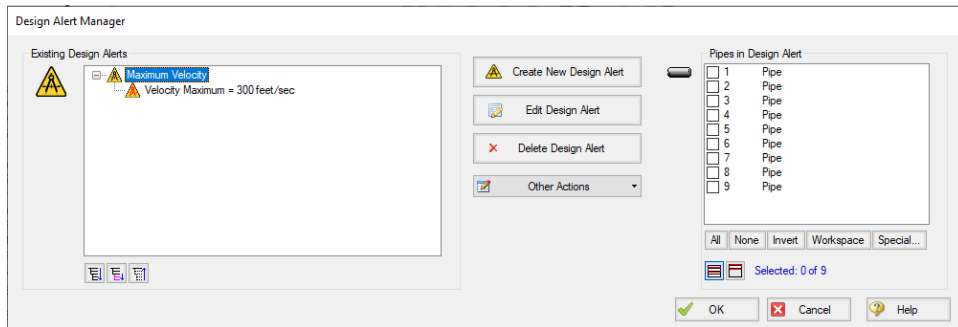

Figure 1: Defined Design Alert window
1. Fully define a Design Alert for any parameter in the Design Alert Manager. For this example, we are using a velocity design alert (Figure 1).